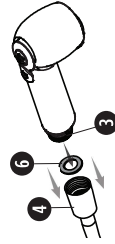

Fig. 7
4. Insert **Small Washer** 6 into hose nut. Thread and tighten the **Hand Sprayer** 3 onto the **Spray Hose** 4 (see Fig. 7).